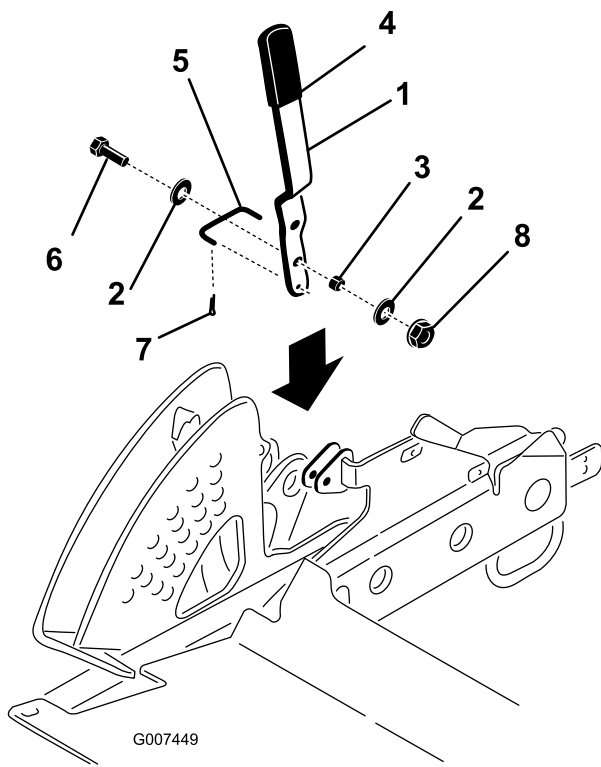

Figure 5
4. Install the new grip onto the new lift lever (Figure 5). Use soapy water to ease the installation of the grip.
5. Mount the new lift lever, spacer and washers to the frame with the bolt and flange nut. Position the components as shown in Figure 5.
6. Connect the valve link to the lift lever with a cotter pin Figure 5.